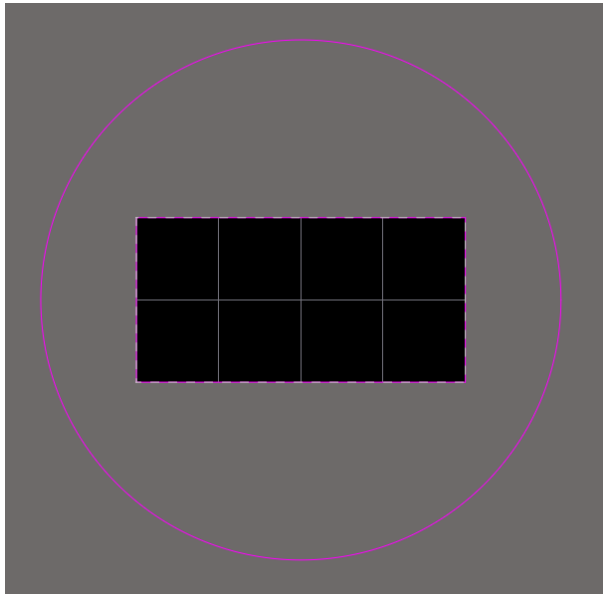

Figure 9. Example Board Shape defined from the rectangle
32. Your PCB should now be rectangular and similar to Figure 9.